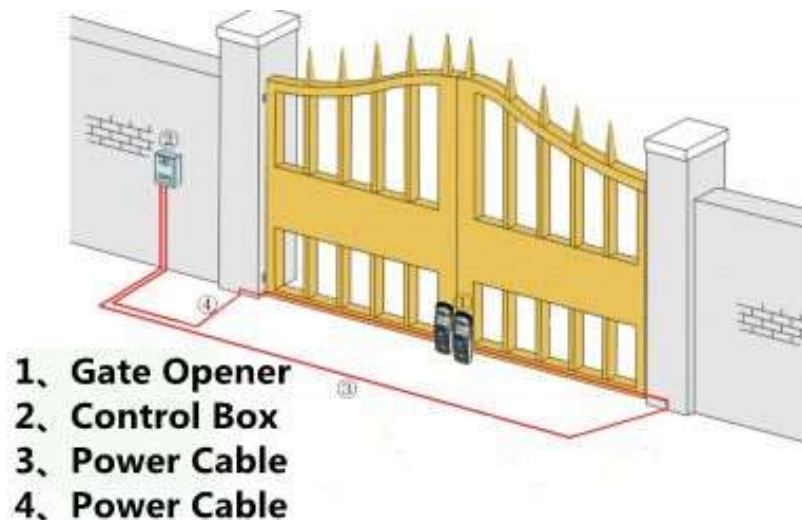

Fig.2
2. Control and power distribution structure, as shown in Fig.2
4. Bury the wire pipes with reference to the wiring diagram of the power distribution system of the gate opener (Fig.2) and determine the diameter and number of cores of multi-strand flexible wires (power cables).